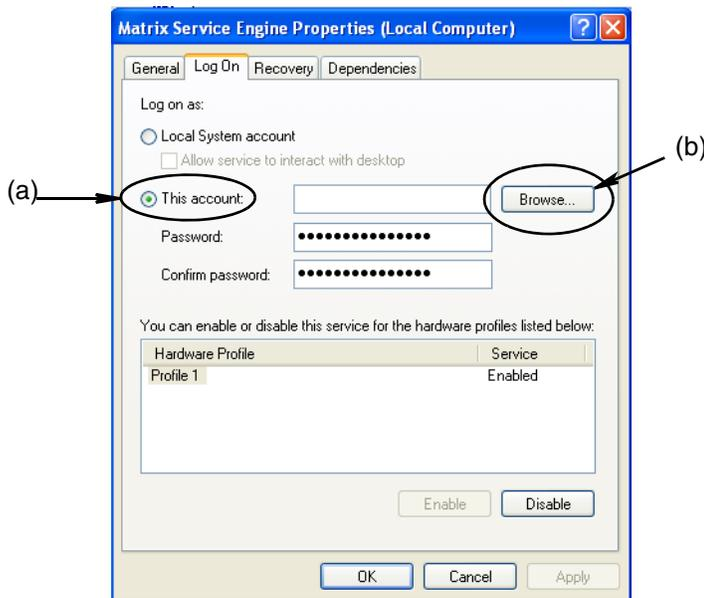

FIG. 39
- f. Select “This Account” (a) (FIG. 39).
- g. Click the Browse button (b) (FIG. 39).
- If the name provided is found, the screen shown in FIG. 39 displays again. Provide the password for your computer. In the Confirm password field type exactly the same password again.